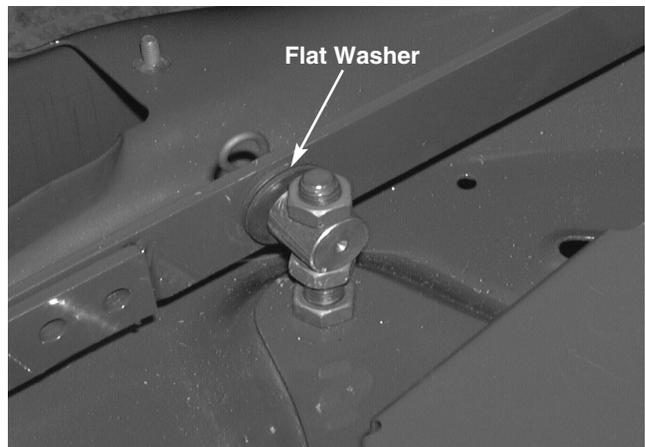

FIGURE 6.
**NOTE:** Both center deck ferrules are secured to the lift link assembly from the left. Also, there are two flat washers between the ferrules and the lift link assembly. See figure 6.